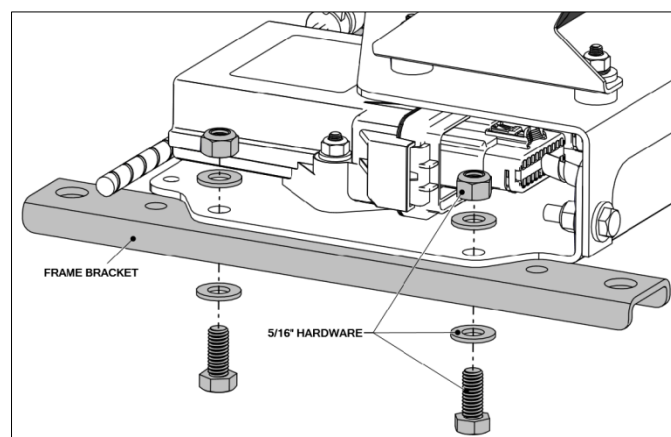

Figure 1B
- Fasten the control board to the two frame brackets using the supplied 5/16" cap screws, nuts and washers. Torque the hardware to 17 ft-lbs [23 N.m]. Refer to Figure 1B.